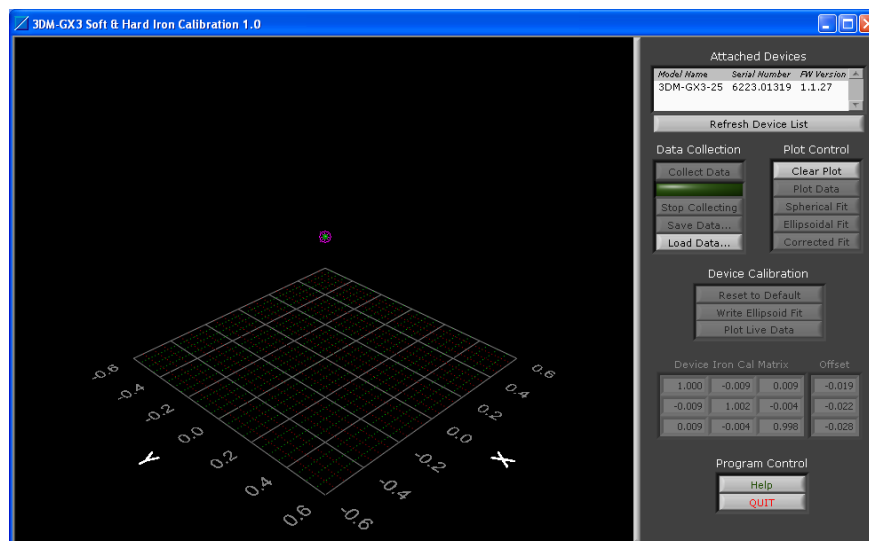

Figure 2
- 4) The 3DM-GX3[®] Soft & Hard Iron Calibration Main window will appear. If you have a 3DM-GX3[®] connected, it will appear in the Attached Devices list as shown in *Figure 2*. If you add a device after the application has been launched, you must click the Refresh Device List button for the new device to appear. If you are calibrating a 3DM-GX3[®] -35, it will appear as a 3DM-GX3[®] -25 in the device list.